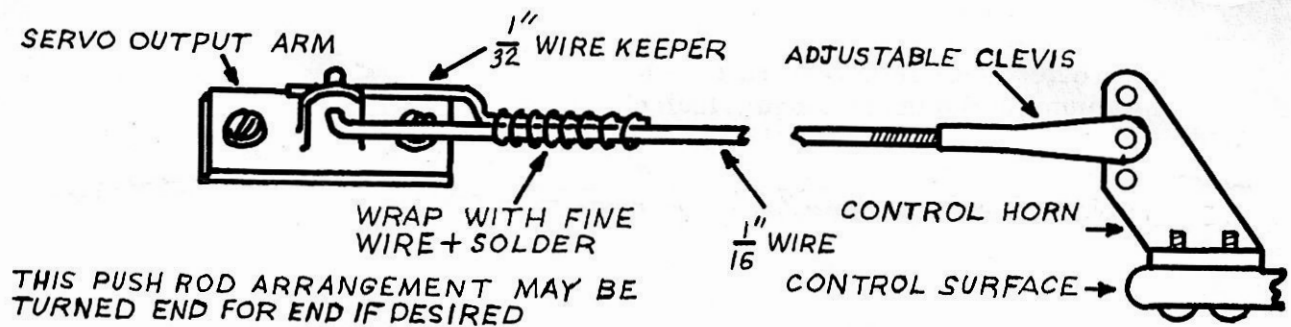

Figure 4
- C. Attachment to the output arm can be accomplished by use of adjustable Clevis links sold at hobby shops, or by 1/16" wire as shown in Figure 4. Hobby shops stock a device which replaces the 1/32" wire in Figure 4, and eliminates soldering. Push rods should not be metal along their entire length. Wood or other insulating material should be used with wire ends.